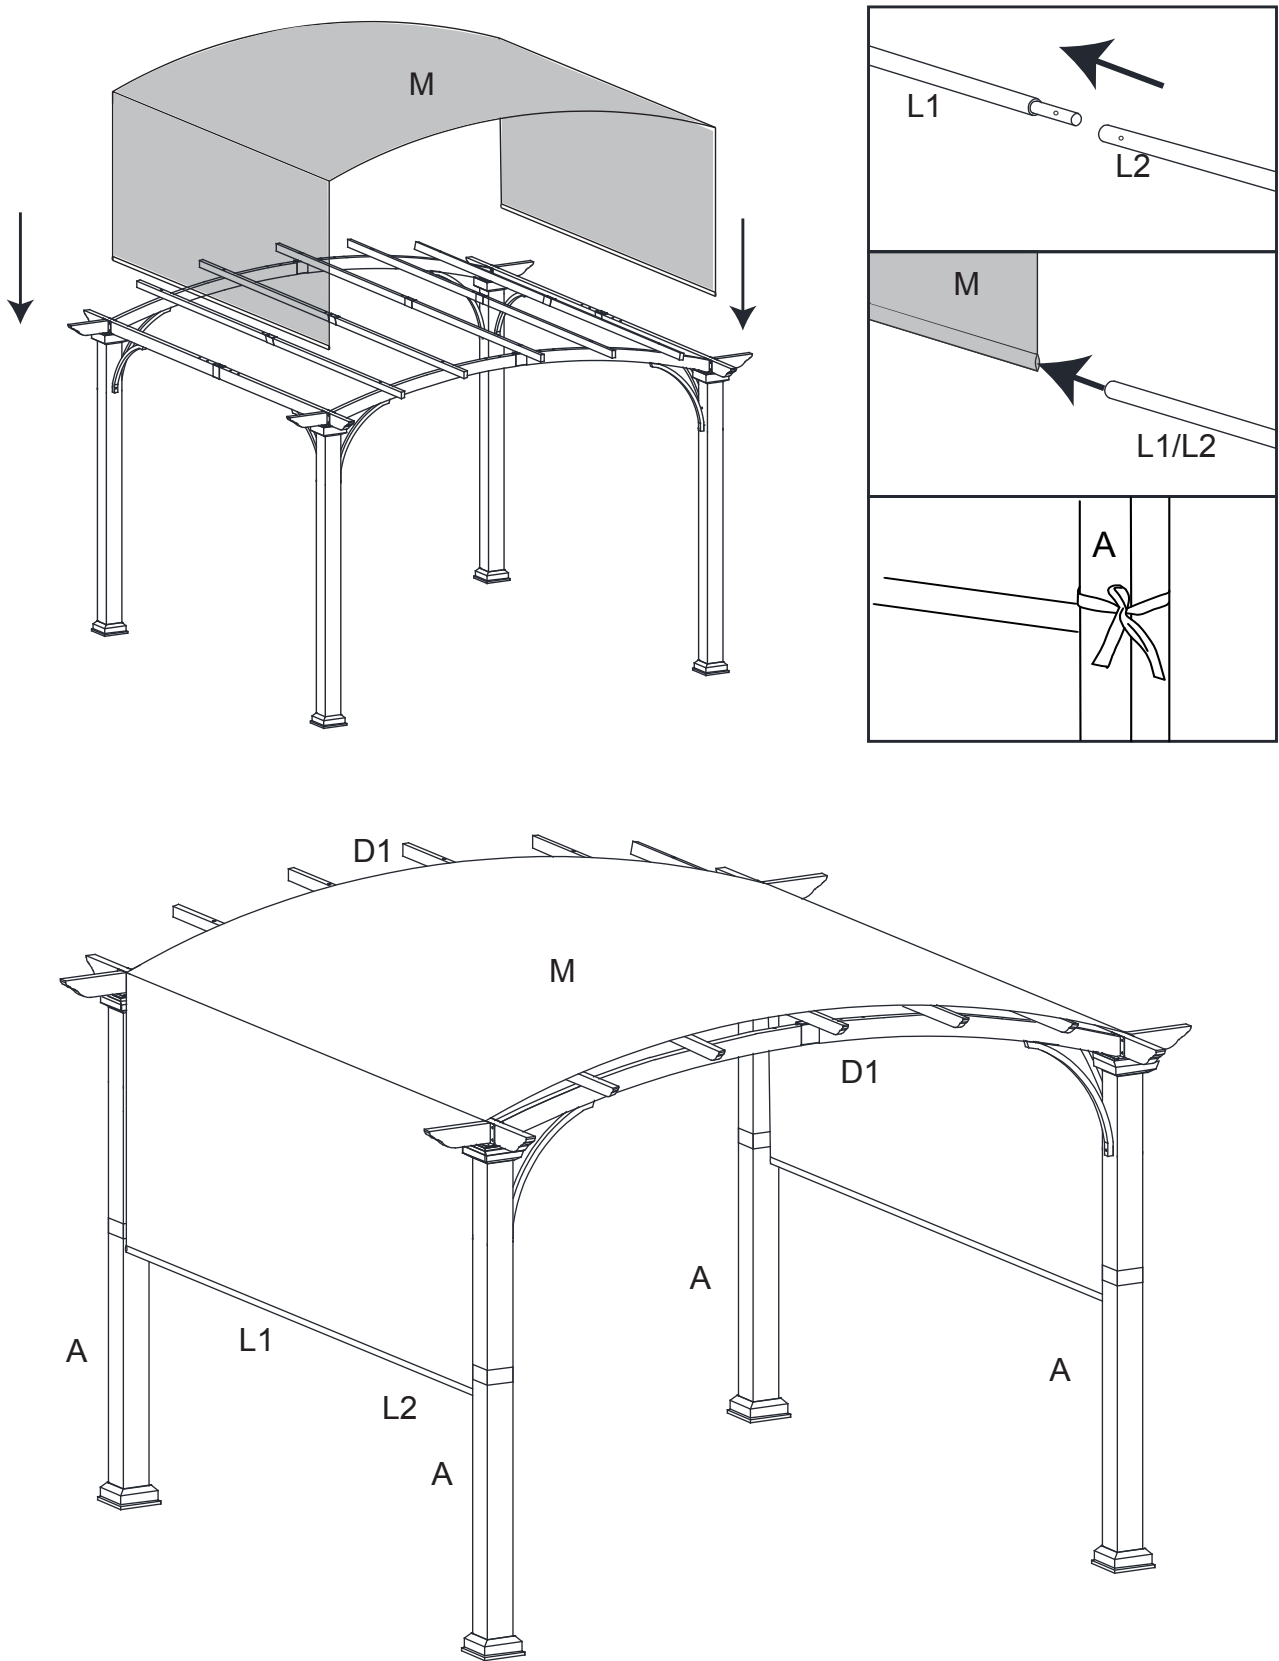

**Figure 7-1**
**Step 7A:** Attach the assembled Inside Lintels (D1) to the Curved Top Beam (B) using Bolts (Q) and Plastic Washers (S). **Tighten Bolts.** See Figure 7-1.